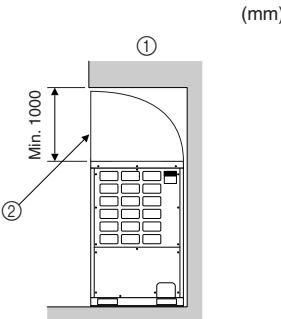
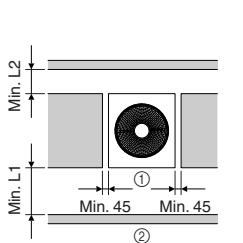

Fig. 2-5
Fig. 2-6
- ① If there is little space between the unit and the obstruction (Fig. 2-5)
- ② Provide outlet blower guide. (Procure locally.)
(3) If the intake air enters from the right and left sides (Fig. 2-6)